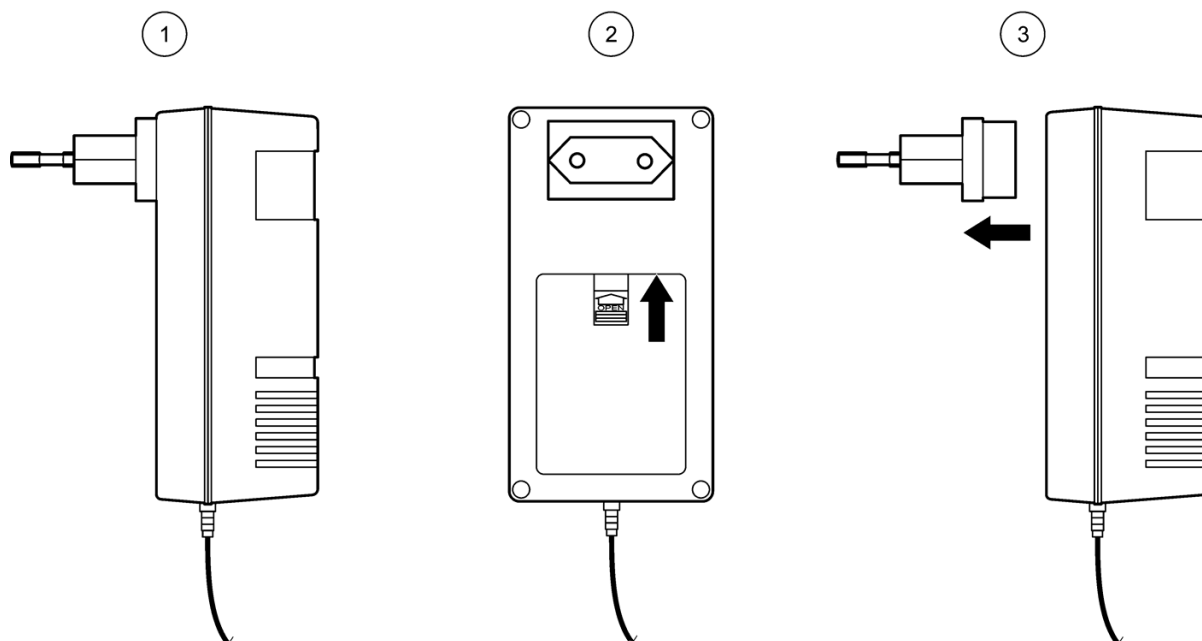

Figure 3 Replace the adapter
1. Push the slide switch (item 2, Figure 3) on the back of the charger up and remove the adapter (item 3, Figure 3).